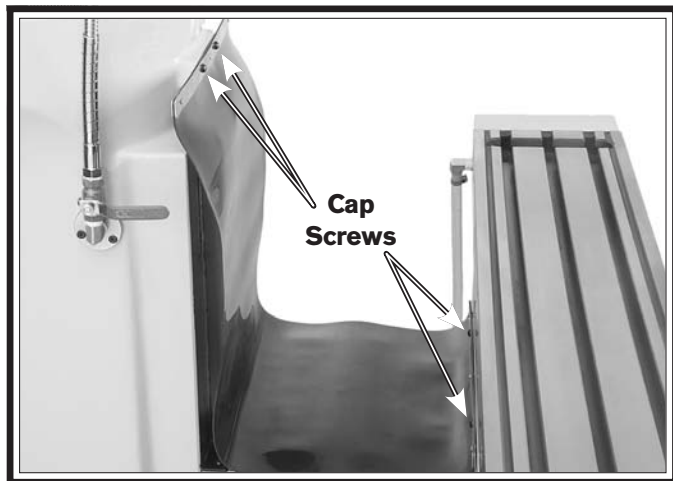

Figure 12. Rear way cover installed.
10. Remove the four button-head cap screws shown in **Figure 12** from the column and the rear of the table, position the rear way cover in place, then secure it with the removed cap screws.